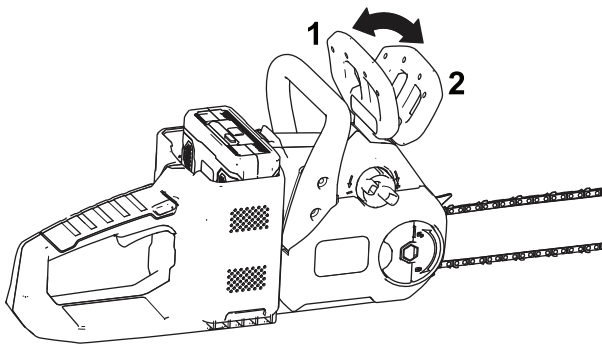

Figure 8
- Ensure that the chain brake is in the OPERATING position (Figure 8).
Whenever you are not using the saw or are transporting the saw to or from the work area, move the chain brake to the STOP position (Figure 8) and remove the battery.